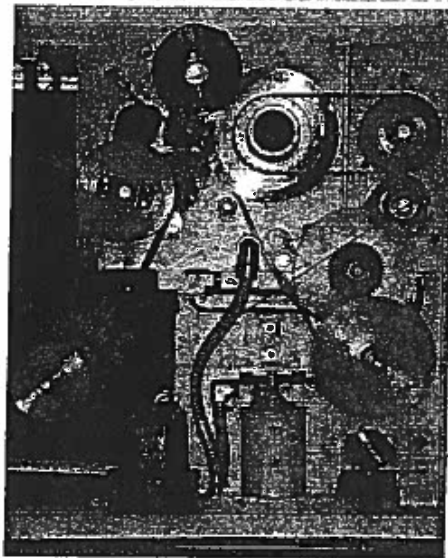

Fig. 27
HEADSTOCK (Fig.27)
A pipe returns oil from the bottom of the headstock to the oil pump. Ensure that the oil level in the system is kept topped up, through the filler (A). Do not fill through Headstock Cover. Check oil level weekly and change the oil every year using Shell Tellus Oil 37 (ISO VG37). The headstock may be drained via the drain plug on the headstock face just below the return pipe (B) Fig.27. System capacity is approximately 16 litres (28 pints.)